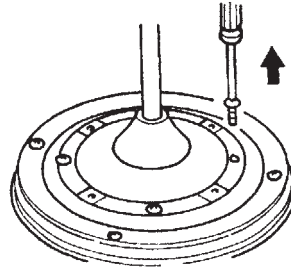

Fig. 1
1. Loosen the 4 screws from top plate of housing (see Fig. 1).